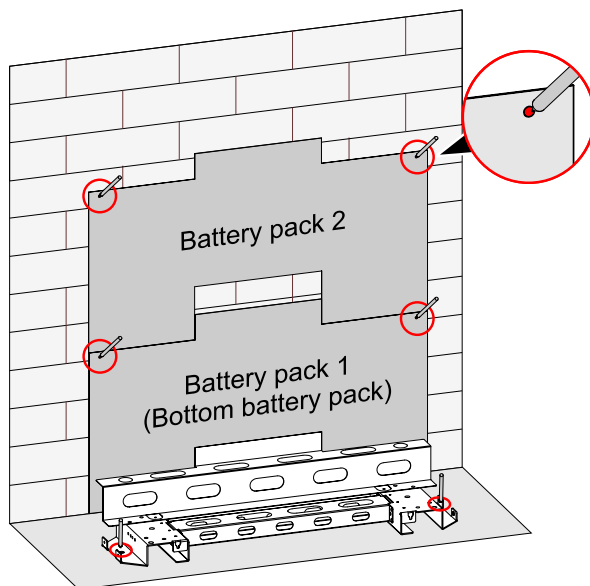

Figure3-13 Mark the installation holes
- The grounding of the inverter and the lightning rod of the building that inverter installed cannot be the same, the two need to be separated (as shown in Figure3-13), or, lightning stroke will damage the inverter.